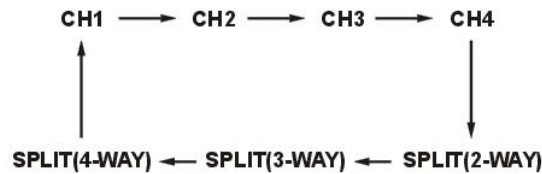

Fig. 2 Source Select Sequence
- Pressing "select" button sequences source input modes in order indicated in Fig. 2.